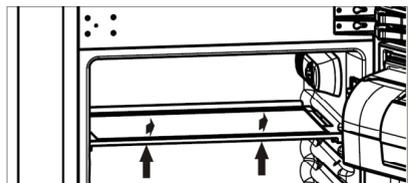

Fig.3
* Slide the shelf out, then slide it in as much as possible so that its clamp could fit the guide groove (Fig. 3).